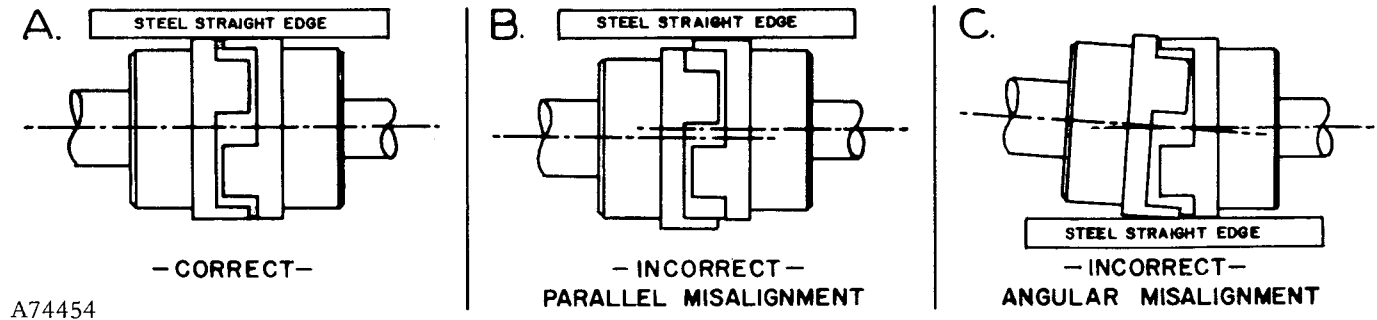

FIGURE 2-7. — COUPLING ALIGNMENT — MODELS ESQ, ESR, ESS & EST
5. Check the angular alignment with a feeler gauge by comparing the 1/8" gap between the spacer jaw and the opposite flange at the three points of proximity. Shim and adjust the motor and compressor so that the gaps are uniform (Views "A" and "C", Figure 2-7). Maximum recommended gap variation is .015".
6. Check the parallel alignment by placing a straight edge across both spacer flanges. Shim and adjust the compressor and motor until the straight edge lies flat on both hubs measured at two (2) points 90° apart (Views "A" and "B", Figure 2-7). Maximum recommended difference in hub level is .015".